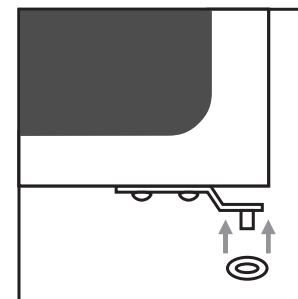

fig. 7c
- Slide the door into the lower hinge. Place the ring between the hinge and the hinge holder (see fig. 7c).